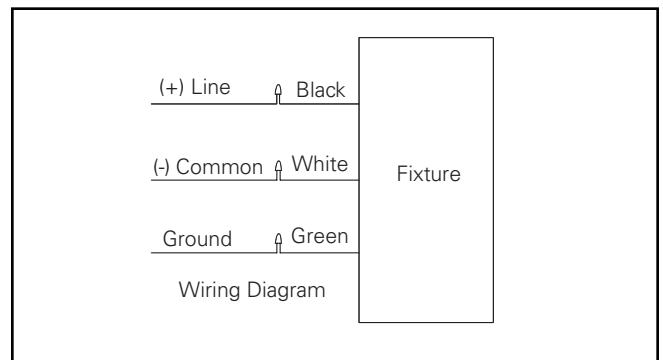

Figure 4.
2. Loosen but do not remove (2) center bolts and (1) set screw.
5. Refer to wiring diagrams for power connection. (Figure 4.)
2. Remove (2) cover plate screws and cover plate with #2 Philips screwdriver.
5. Make wiring connections per wiring diagram and place connections down into pole or mounting bracket. (Figure 4.)
6. Loosen (3) set screws and slide the slipfitter onto pole or mounting bracket.
7. Position luminaire into the desired direction; and tighten (3) set screws to 10 ft-lbs.
4. Refer to wiring diagrams for power connection. (Figure 4.)